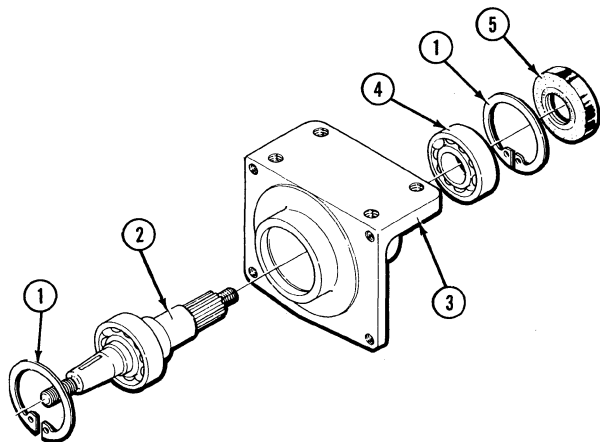

Figure 19
1. Inspect both bearings (2 and 4), Figure 19, for visible damage, wobble and noise when the bearings are turned.